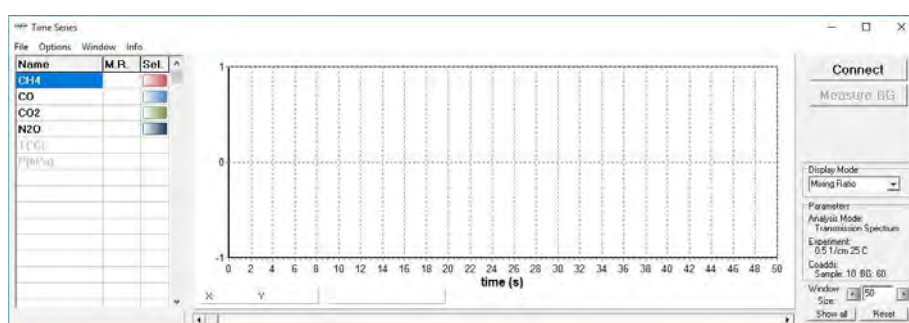

Figure 5.1: OPUS GA - *Times Series* window
- The gas compounds which can be identified in the spectrum are shown in the left table (figure 5.1). Only those gas compounds selected by a colored box will be evaluated when new spectra are recorded.
4. From the left table (figure 5.1), select the gas compounds (30 at maximum) to be evaluated.